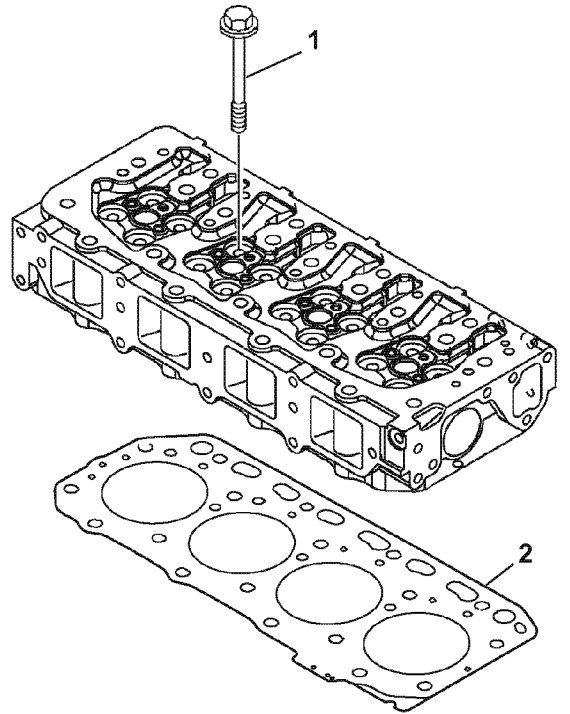

Figure 6-47
2. Remove the cylinder head bolts (1, Figure 6-47).
3. Lift the cylinder head away from the cylinder block. Discard the cylinder head gasket (2, Figure 6-47). Place the cylinder head on the work bench to prevent damage to the combustion surface.